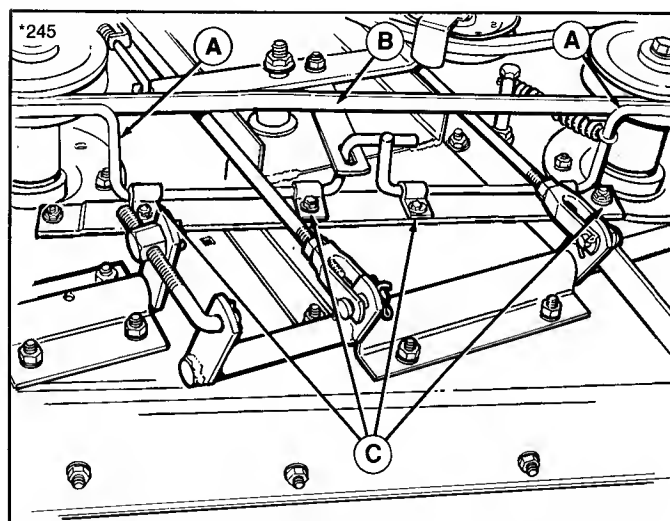

Figure 40. Blade Brake Adjustment
Inspect the mower deck with the mower attached and PTO rod released. The blade brake rods (A, figure 40) should firmly contact the belt (B) at the rear of the right and left arbor pulleys. There should be a shaft clearance between the two brake rods in the center.